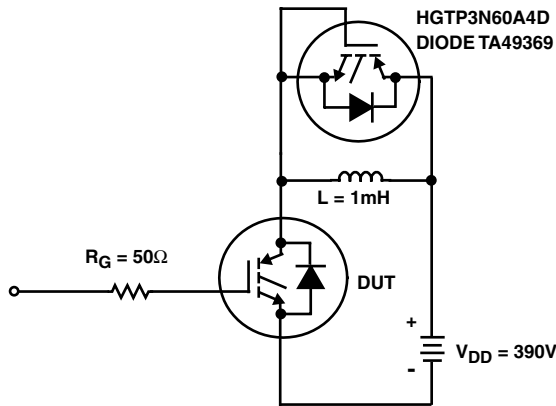

FIGURE 24. INDUCTIVE SWITCHING TEST CIRCUIT
| Current Turn-On Delay Time              | $t_{d(ON)I}$  | IGBT and Diode at $T_J = 25^\circ\text{C}$ ,$I_{CE} = 3\text{A}$ ,$V_{CE} = 390\text{V}$ ,$V_{GE} = 15\text{V}$ ,$R_G = 50\Omega$ ,$L = 1\text{mH}$ ,Test Circuit (Figure 24) | -                         | 6   | -         | ns            |               |
| Current Turn-On Delay Time          | $t_{d(ON)I}$    | IGBT and Diode at $T_J = 125^\circ\text{C}$ ,$I_{CE} = 3\text{A}$ ,$V_{CE} = 390\text{V}$ , $V_{GE} = 15\text{V}$ ,$R_G = 50\Omega$ ,$L = 1\text{mH}$ ,Test Circuit (Figure 24) | -   | 5.5  | 8   | ns                        |
- Values for two Turn-On loss conditions are shown for the convenience of the circuit designer.  $E_{ON1}$  is the turn-on loss of the IGBT only.  $E_{ON2}$  is the turn-on loss when a typical diode is used in the test circuit and the diode is at the same  $T_J$  as the IGBT. The diode type is specified in Figure 24.